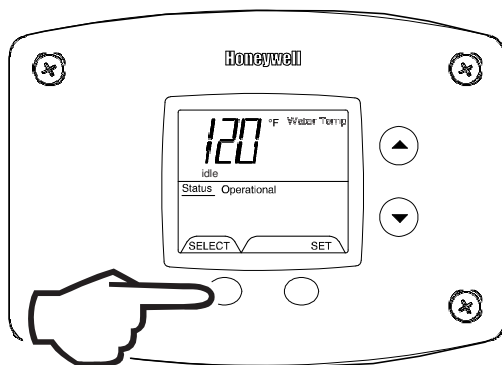

Fig. 30
2. Water Temperature Average (Displays average if there are two sensors – sensor temperature displayed if single sensor is used) (Fig. 30).